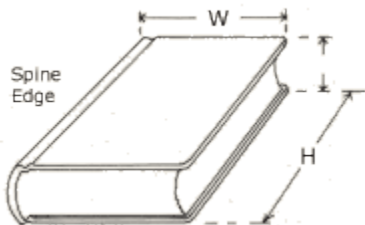
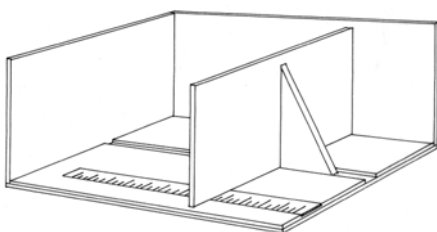

FIGURE 2
FIGURE 3
Whether you construct your own custom-fitted book boxes or order them from suppliers, you will need to measure the height (H), width (W), and thickness (T) of the books to be boxed (Figure 2). The easiest way to do this is by using a measuring device such as the MEASUREpHASE™ (Figure 3). This exact device is no longer available for sale; however, Preservation Equipment Ltd and CMI carry similar products.